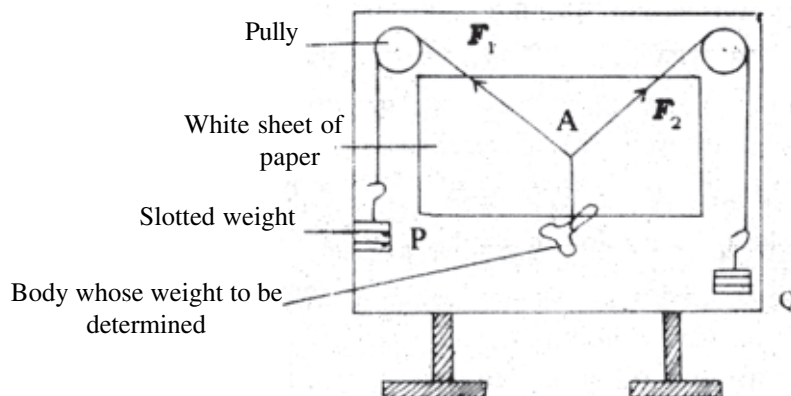

Fig. 5.4 : Gravesand's apparatus
- i) Set up the Gravesand's apparatus with its - board vertical and stable on a rigid base. Check this with the help of a plumb line (Fig. 5.4).